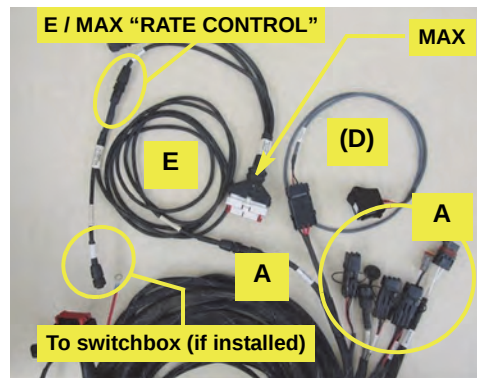

Figure 1b: Splitter cable connections
- b. Using the splitter (‘Y’) cable **E** (but see note following), tie into the existing CAN connection. For example, connect **E** between the 7-pin CAN connector labeled “**RATE CONTROL**” on the Out-back MAX cable (with the white main connector) and the 7-pin CAN connector on interface cable **A** (Figure 1b).
You can use cable **E** to connect the switchbox if installed (Figure 1b).